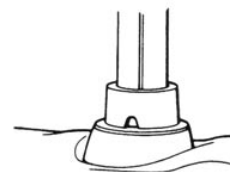

Fig. 2
4. Lute the base of the plastic female on top of the coping (Fig. 2). If more than one attachment is used, be sure the table alignment remains unchanged to assure parallelism of the attachments. Take care that wax does not flow onto the top of the base. This surface must remain clean.